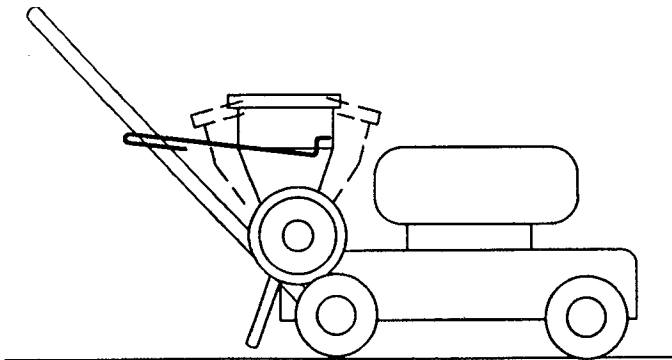

Figure 28
- 8.** Adjust the hopper so it is level and tighten the handle knob securely to lock the hopper in place (Fig. 28).